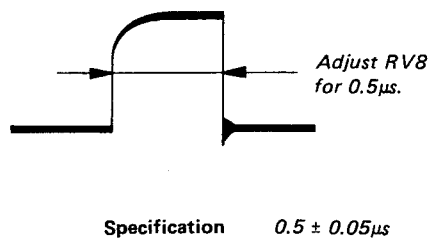

Fig. 5-47.
4. Adjust RV8 on the B board to set the Y clamp pulse width to $0.5\mu\text{s}$. (See Fig. 5-47.)